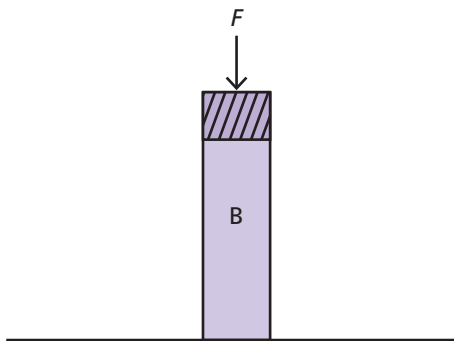

Figure 1.7 A bar whose length has decreased after being subjected to compressive strain
Figure 1.7 shows a bar (B) whose length has decreased after being subjected to compressive strain.